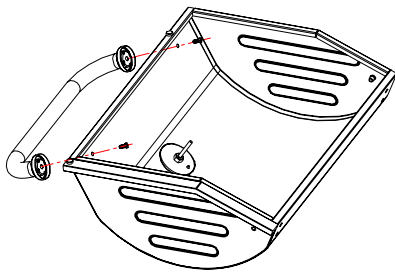

Fig. 19B
Refer to Fig.19B and attach the Lid handle to the Lid with (2) M6x15 bolts as shown.